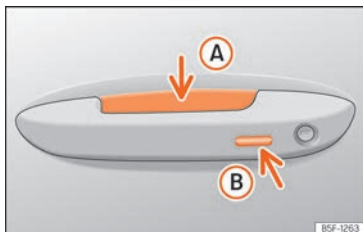

Fig. 89 Door handle: sensor surfaces
»» Fig. 89
- Grip one of the front door handles. When you do this, you touch the sensor surface »» Fig. 89 (A) (arrow) of the handle and the vehicle unlocks.
- Touch (once) the locking sensor surface »» Fig. 89 (B) (arrow) on one of the front door handles. The door that is used must be closed.
- Touch (once) the sensor surface »» Fig. 89 (B) (arrow) on one of the front door handles. The vehicle locks with the "Safe" security system »» page 105. The door that is used must be closed.
- Touch (twice) the sensor surface »» Fig. 89 (B) (arrow) of one of the front door handles to lock the vehicle without activating the "Safelock" security system »» page 105.
» **Fig. 89**  within the following 5 seconds. Do not grasp the door handle; otherwise the vehicle will not unlock. Deactivation is also possible if the vehicle is locked through the driver's door lock.
To close all the electric windows and the sunroof using the **comfort function**, keep a finger for a few seconds on the locking sensor surface » **Fig. 89**  (arrow) of the door handle until the windows and roof have closed.
The sensor surfaces on the door handles could engage if hit with a water jet or high pressure steam if there is a valid vehicle key in the proximity. If at least one of the electric windows is open and the sensor surface » **Fig. 89**  (arrow) on one of the handles is activated continuously, all windows will close.